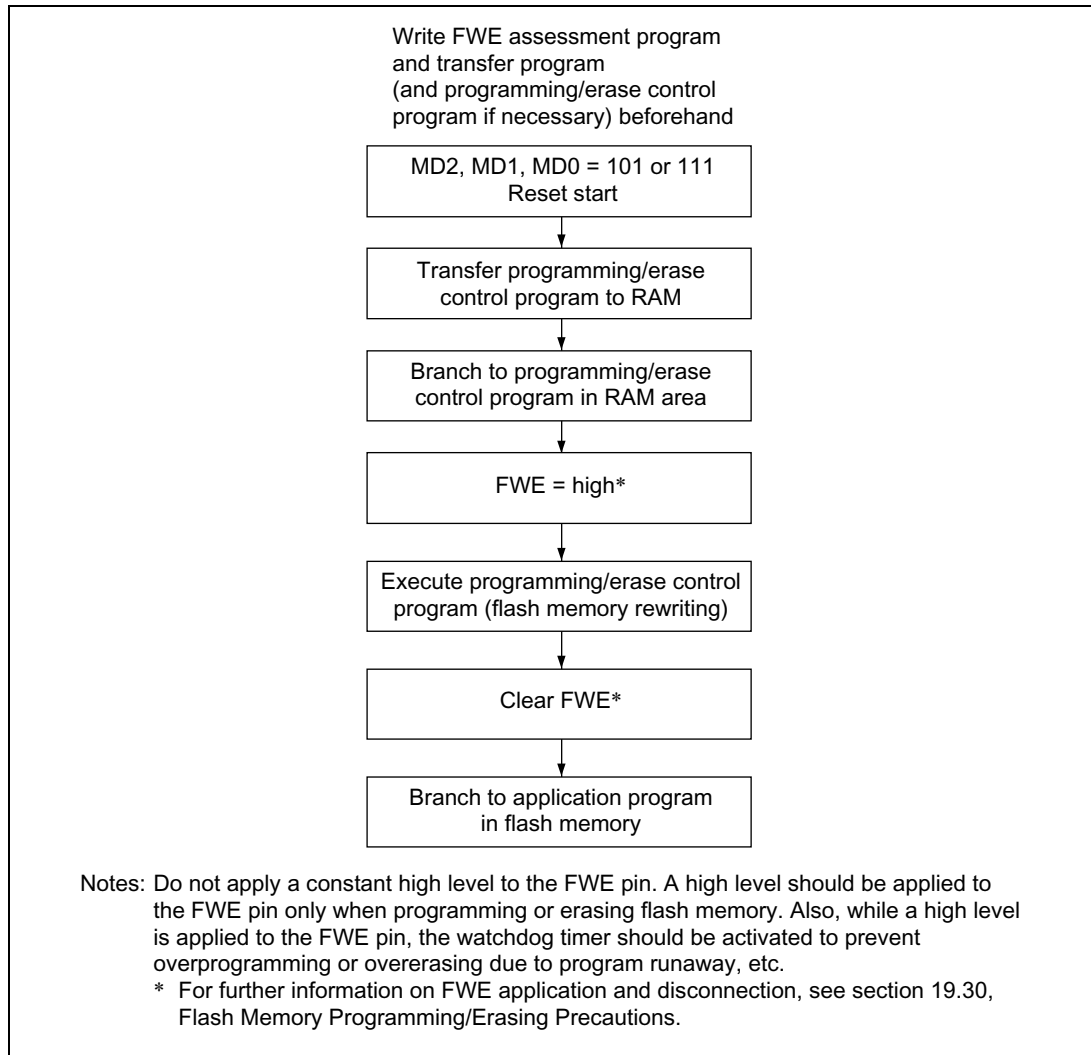

Figure 19-70 Example of User Program Mode Execution Procedure
Figure 19-70 shows the procedure for executing the program/erase control program when transferred to on-chip RAM.
Follow the procedure shown in the program/program-verify flowchart in figure 19-70 to write data or programs to flash memory. Performing program operations according to this flowchart will enable data or programs to be written to flash memory without subjecting the device to voltage stress or sacrificing program data reliability. Programming should be carried out 128 bytes at a time.
After the elapse of a given programming time, the programming mode is exited (the Pn bit in FLMCRn is cleared to 0, then the PSUn bit is cleared to 0 at least (α) μ s later). Next, the watchdog timer is cleared after the elapse of (β) μ s or more, and the operating mode is switched to program-verify mode by setting the PVn bit in FLMCRn. Before reading in program-verify mode, a dummy write of H'FF data should be made to the addresses to be read. The dummy write should be executed after the elapse of (γ) μ s or more. When the flash memory is read in this state (verify data is read in 16-bit units), the data at the latched address is read. Wait at least (ϵ) μ s after the dummy write before performing this read operation. Next, the originally written data is compared with the verify data, and reprogram data is computed (see figure 19-70) and transferred to the reprogram data area. After 128 bytes of data have been verified, exit program-verify mode and wait for at least (η) μ s, then clear the SWEn bit in FLMCRn to 0, and wait again for at least (θ) μ s. If reprogramming is necessary, set program mode again, and repeat the program/program-verify sequence as before. However, ensure that the program/program-verify sequence is not repeated more than (N) times on the same bits.